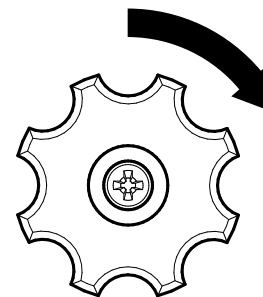

Figure 25. Propane Tank Shut-Off Valve (Closed)
4. If **LPG** mode was in use, turn the shutoff valve knob clockwise to **CLOSE** (Figure 25).